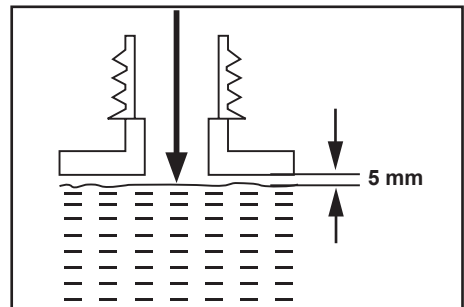

Fig. 3b
3. Fill suitable lubricant into the tank using an oil funnel fitted with a filter to avoid debris entering the tank. Do not overfill and leave approximately 5 mm of space between the top of the oil and the inside edge of the tank to allow for expansion (Fig. 3b).